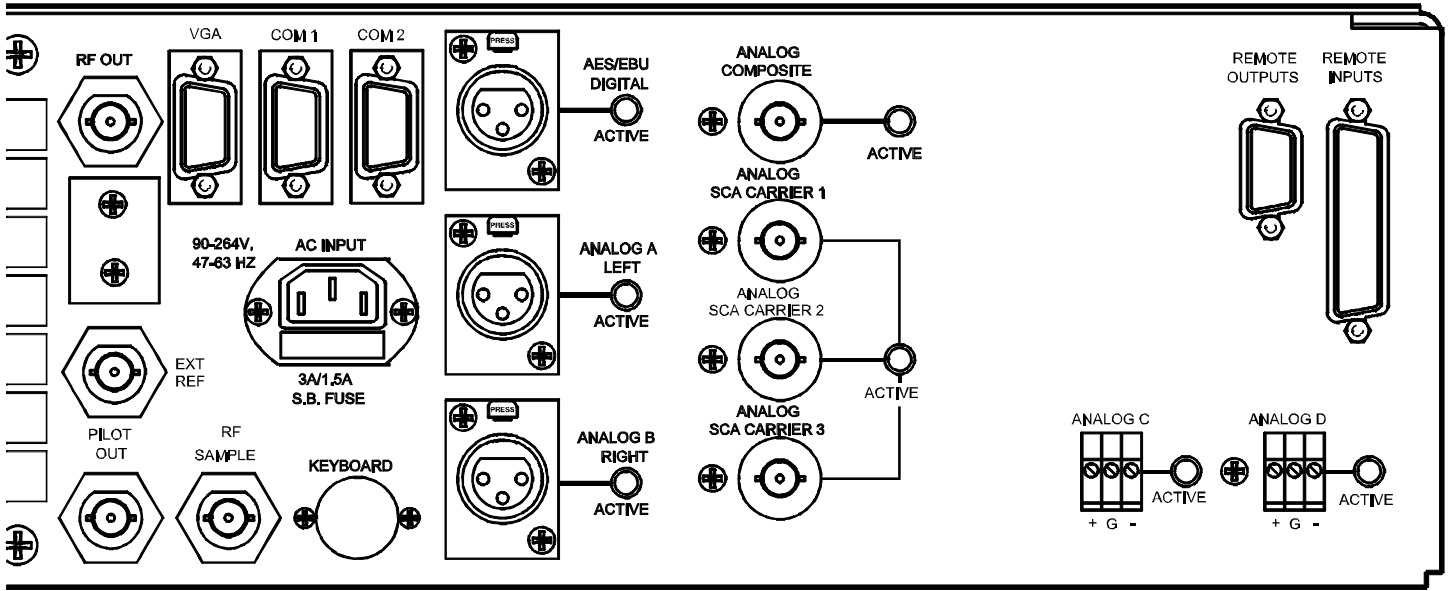

Figure 1, Rear Panel
- a. Connect your SCA audio cable(s) to the SCA input on the exciter rear panel. Refer to Figure 1 on page 1-4 for location.
- a. Connect the Composite output from the Audio Processor or STL to 802D1 Composite Input. Refer to Figure 1 on page 1-4 for location.
- a. Connect your Left and Right audio channels to the Left and Right XLR connectors on the exciter rear panel. Refer to Figure 1 on page 1-4 for location.
- a. Connect your AES/EBU audio cable to the AES/EBU XLR connector on the exciter rear panel. Refer to figure 1 on page 1-4 for location.
b. Rear Panel: (Refer to Page 1-4, Figure 1)